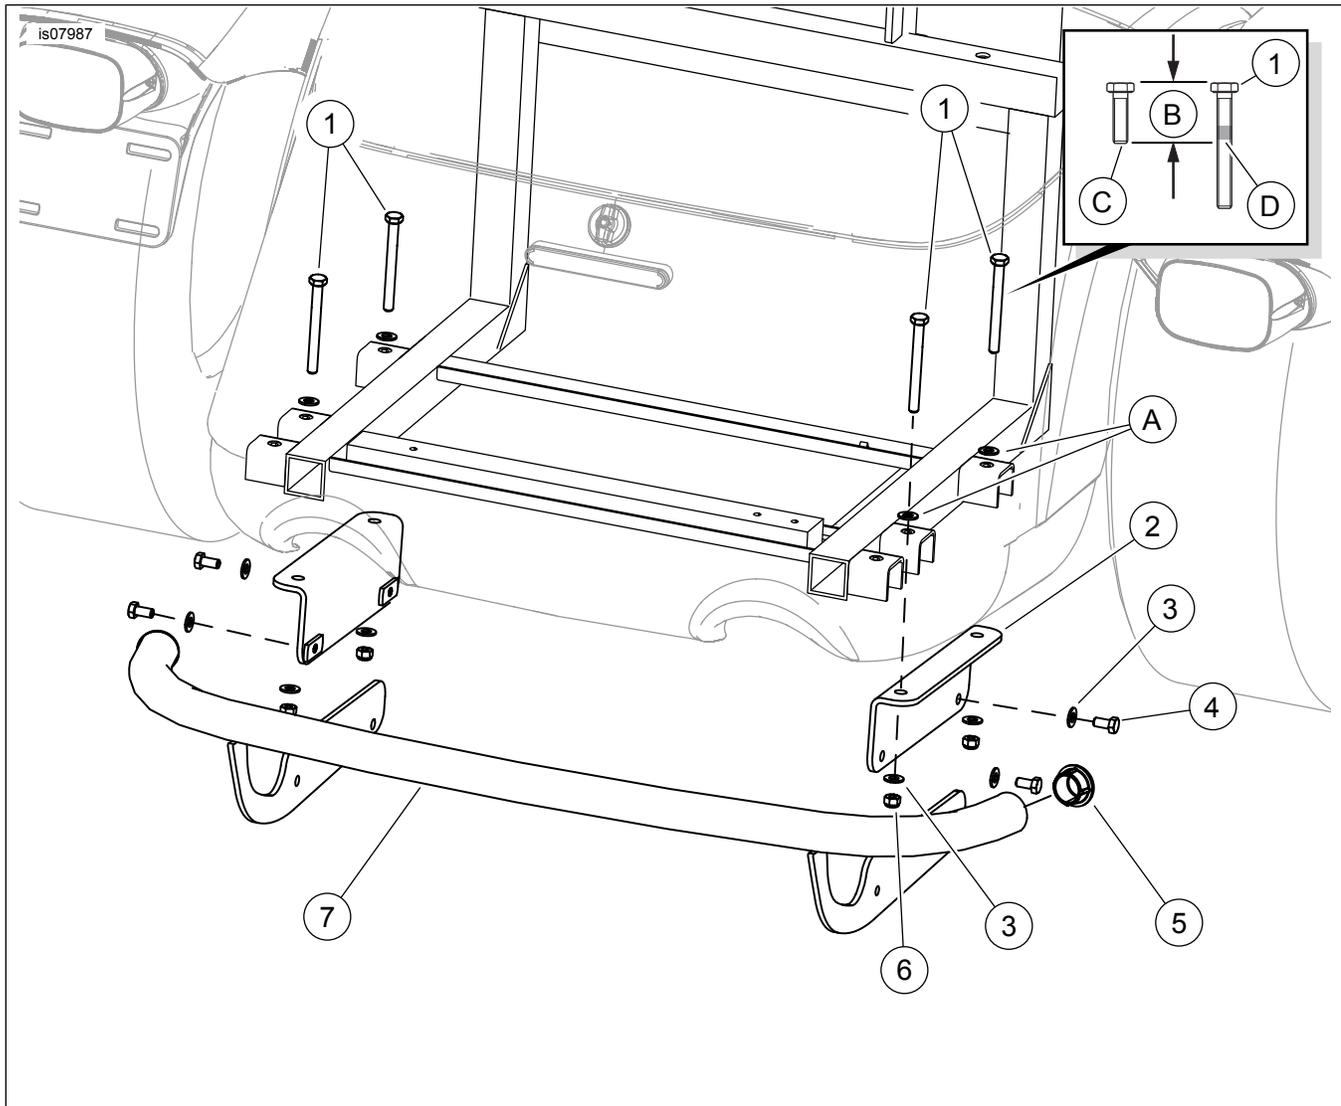

Figure 1. Service Parts: Trike Chrome Rear Guard Kit
See Figure 1 and Table 1.
2. See Figure 1. Locate four screws with washers (A) in the floor of the trunk compartment that hold the body to the rear frame. Leaving the washer in place, remove one of the screws. Save screw for next step, then discard.
3. See the inset in Figure 1. Apply LOCTITE 243 (blue) to long screws (1).
- a. Mark the length (B) of the original screw (C) onto new long screw (1).
- b. Apply LOCTITE 243 (blue) (D) to 10 mm ($\frac{1}{2}$ in) of the screw threads on the head side of the mark.
Orient mounting brackets as shown in Figure 1.